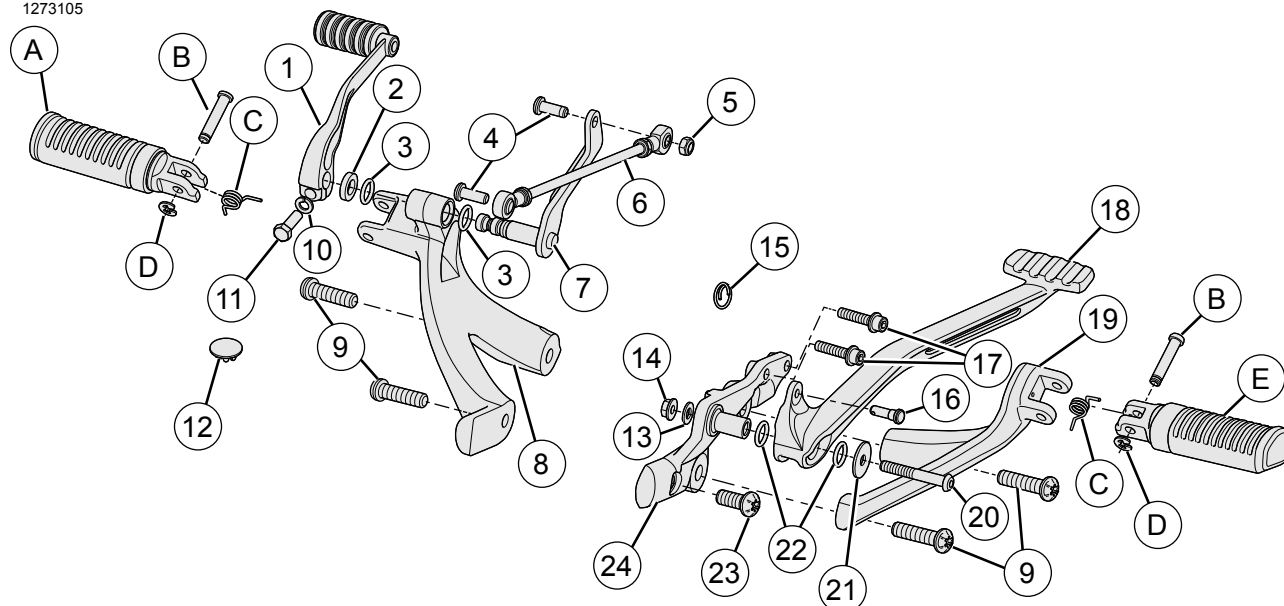

Figure 11. Service Parts: Forward Controls Kit - Black
1. See Figure 11. Select the brake pedal bracket assembly and screw (23) from kit.
- a. See Figure 11. Select right foot support bracket assembly and screws (9) from kit.